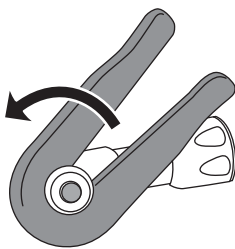

Fig. 12
- 3) Place cap wrench on the head cap and turn counter-clockwise. Unscrew and separate the cap. (Fig.12)